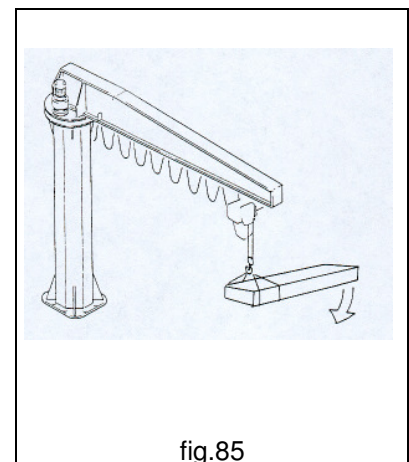

fig.85
- **NEVER** lift unbalanced loads (fig.85).